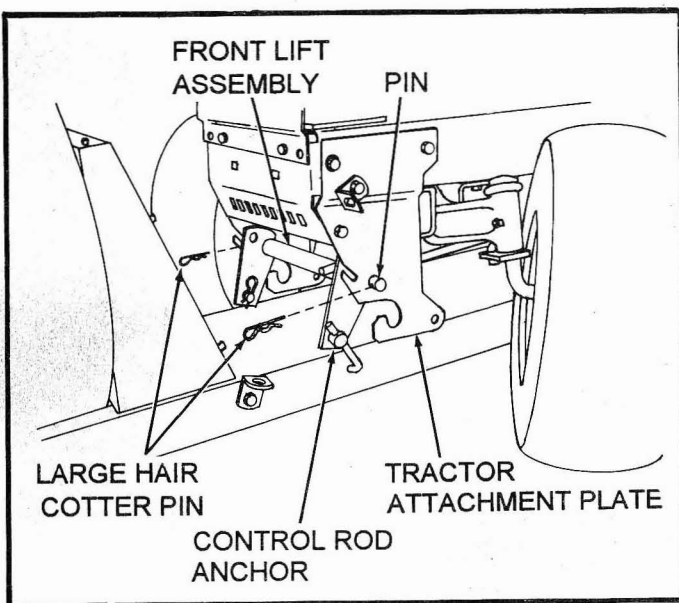

FIG. 17
- Turn front wheel of tractor to left as far as they will turn. (See Fig. 17)
- Install control rod anchor of lift link rod into each side of front lift assembly and secure with small hair cotter pins. (See Fig. 17)